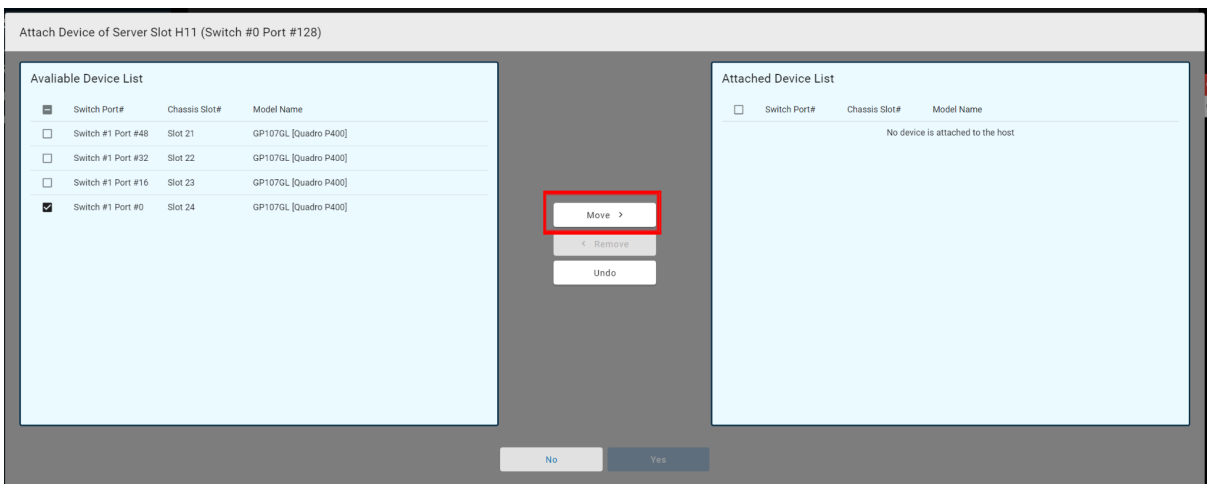

Figure 70. Moving GPUs from the Available Device List to the Attached Device List
E. Click Move to transfer the selected GPUs to the Attached GPUs column (refer to Figure 70).